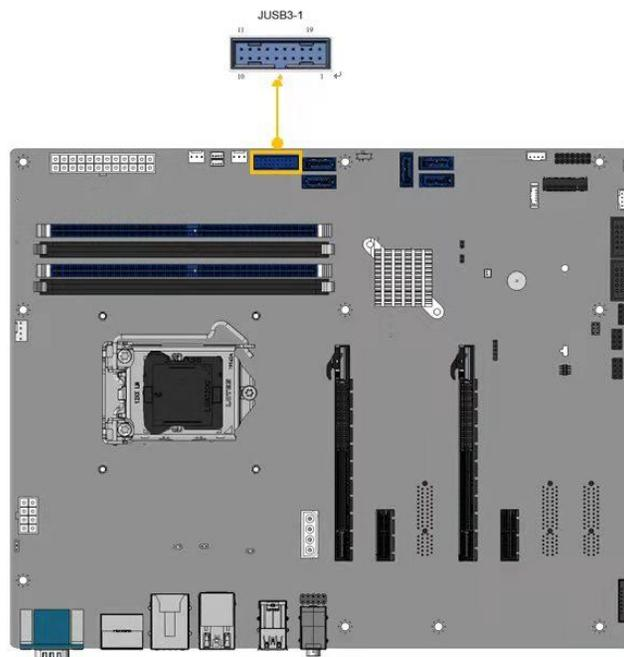

Figure 3-31: Internal USB 3.2 Gen 1 Connector Location
- CN Location:** See **Figure 3-31**